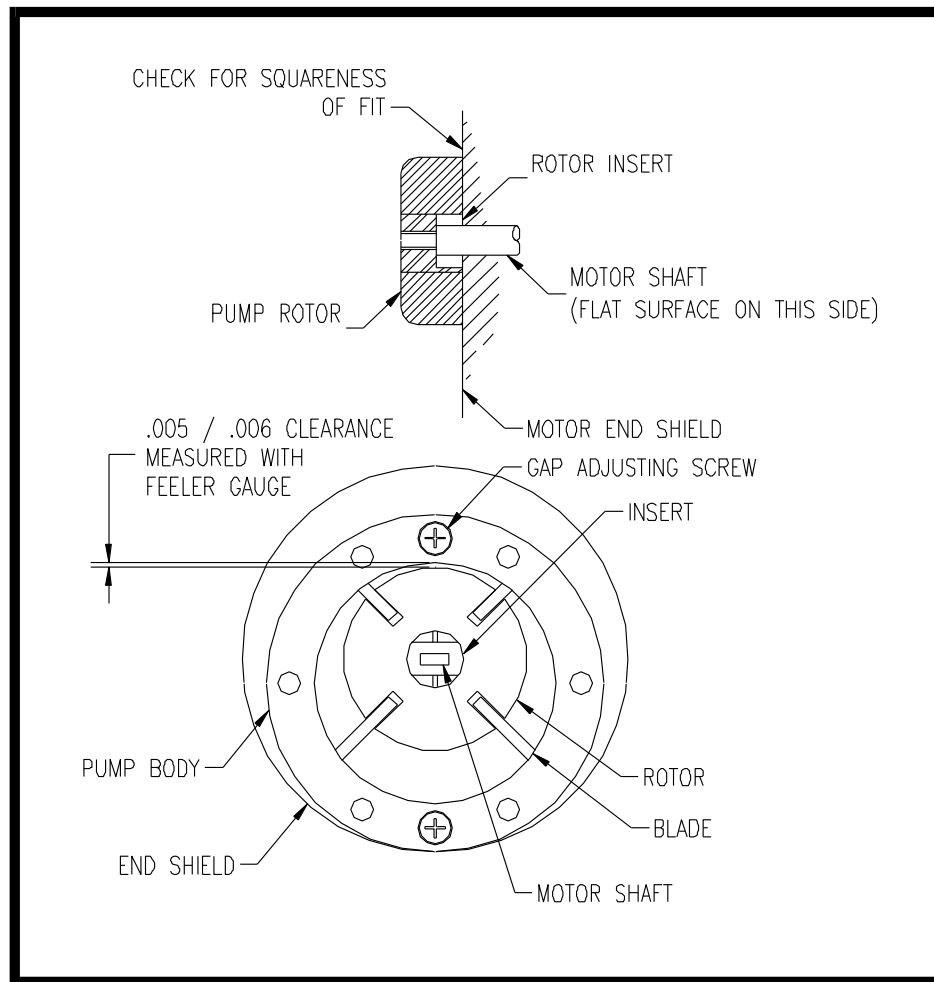

Figure 4-4. Checking clearance of air pump rotor
1. Install the insert in the pump rotor as shown in Fig. 4-4, the assemble rotor on the motor shaft. When installing the rotor, take care to keep it perpendicular to the motor shaft. Attach the pump body to the motor with the two recessed screws that were removed to take it off.
2. Adjust the pump body to provide 0.005 to 0.006 inch clearance at the point shown in the figure 4-4. Measure the clearance with a feeler gauge. Spin the motor by hand to be sure the rotor does not rub on the pump body. The proper clearance must be maintained. Be sure the recessed screws are tight after adjusting.